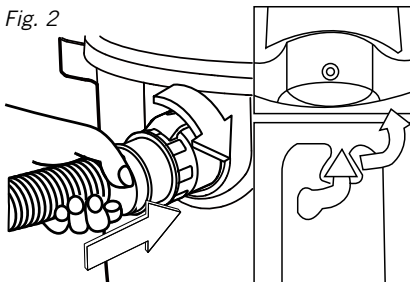

Fig. 2
- Insert the larger end of the hose **15** into the vacuum port on the collection tank **9** and lock into place. **Fig. 2**.